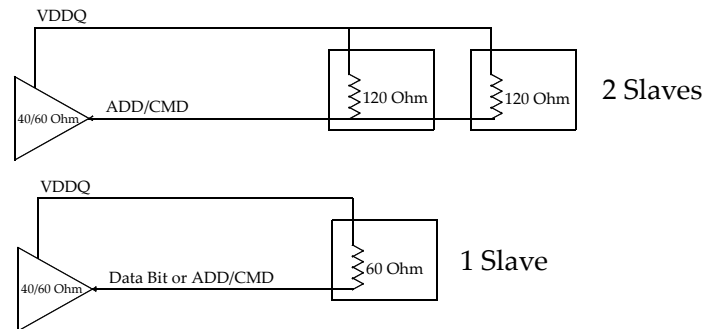

Figure 98 — System Configurations
- 1.) First calibrate the PMOS device against a 120 Ohm resistor to VSS via the ZQ pin as illustrated in Figure 98.